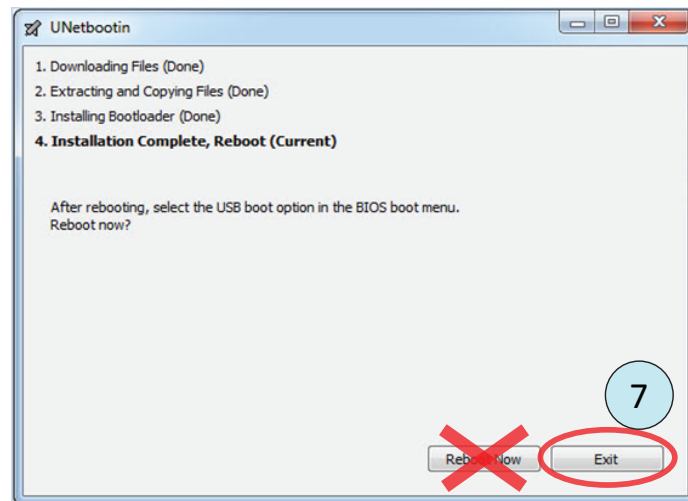

Figure E5. UNETBOOTIN installation complete window.
7) When the copy/burn process is complete, the window in figure E5 will be displayed. **WARNING: DO NOT CLICK THE 'Reboot Now' BUTTON!** Click the **Exit** button or the red X in the upper corner of the window.